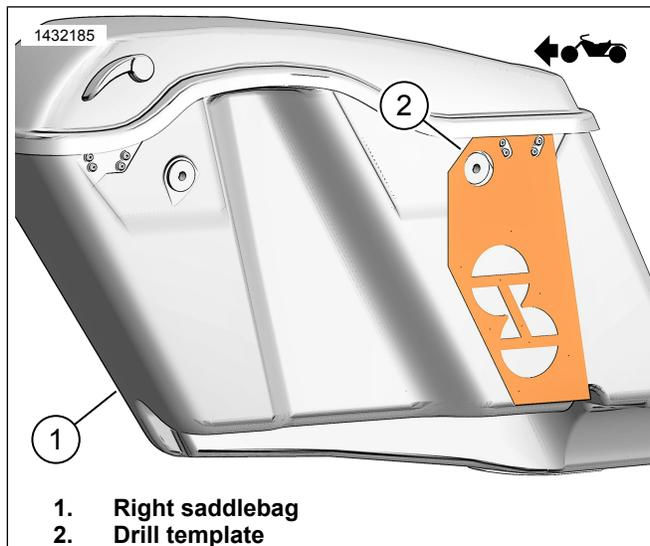

Figure 9. Right Saddlebag Template
1. Figure 9 Position template (2) on right saddlebag (1).